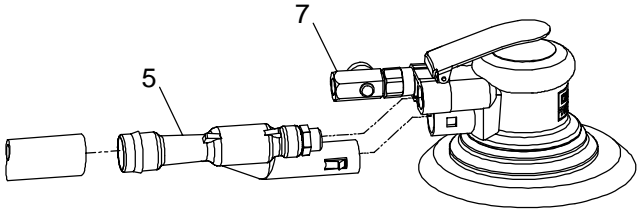

Figure 2
- Rotate Knob on the Air Regulator (7) to adjust air flow. (Figure 2)
1. Remove the Muffler (2) and Plug (4).
2. Install the Eductor Assembly (5). Insert the tapered section of the Eductor Assembly into the Housing (1) while aligning the threaded section with the Housing. Using a wrench on the flats, tighten the threaded section securely. The tabs will snap into slots in the Housing.
3. Install the central vacuum on Eductor Assembly (5). See Figure 2.